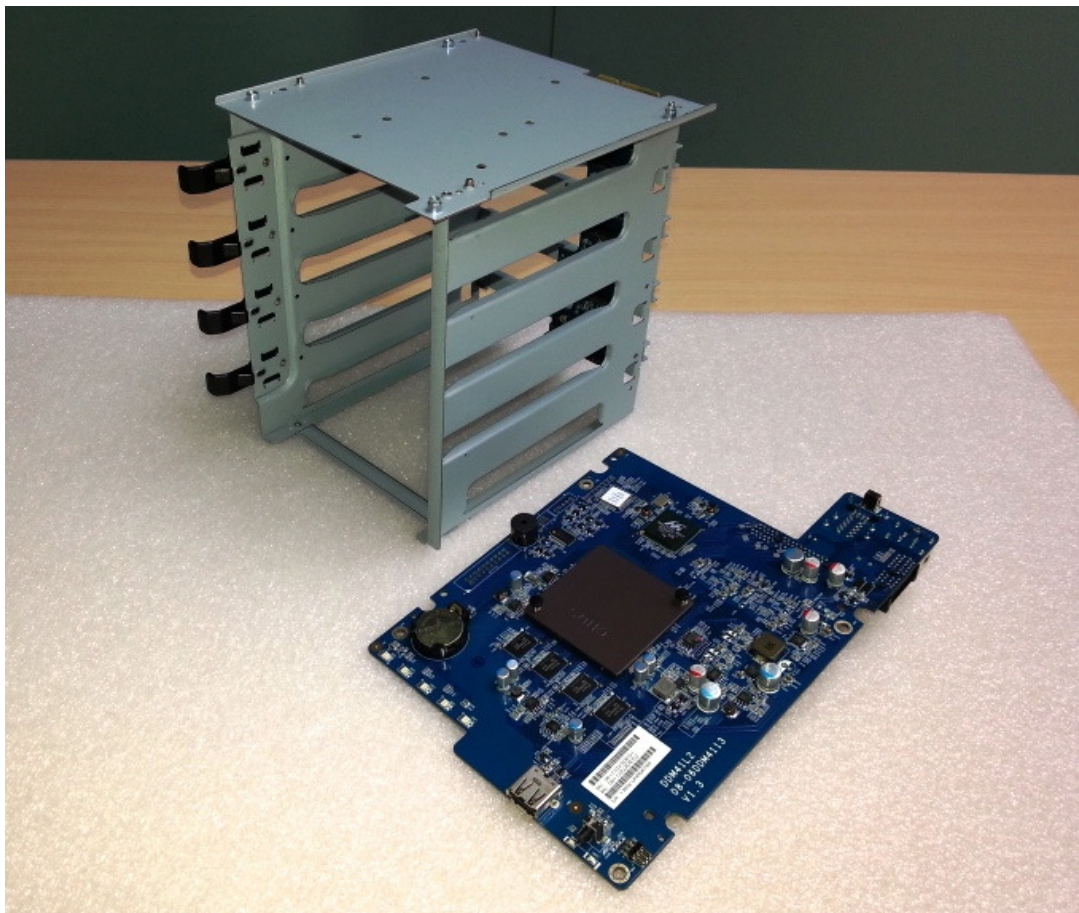

Fig. 24
2.1.15 Fig. 24 shows the status after the defective motherboard is removed from the HDD chassis.